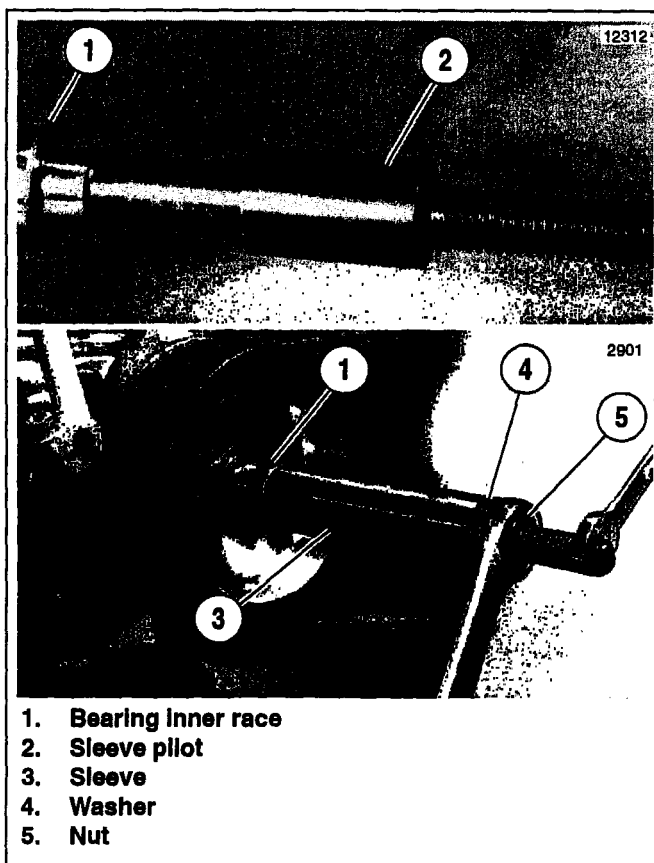

Figure 14. Installing Mainshaft Inner Bearing Race
*See Figure 14. The **new** mainshaft inner bearing race (Part No. 34091-06 from 94445 recall parts kit) must be positioned on the mainshaft a precise distance to properly align with bearing outer race in inner primary chaincase.*
17. See Figure 14. To install **new** mainshaft bearing inner race (1) (Part No. 34091-06 from 94445 recall parts kit), use those parts of the combination BEARING RACE PULLER AND INSTALLATION TOOL (Part No. HD-34902-B) that are shown in the figure.
- a. Slide bearing inner race (1) onto mainshaft with numbered end of race facing away from main drive gear.
- b. Thread sleeve pilot (2) onto end of mainshaft (left hand thread).
- c. Position sleeve (3) over sleeve pilot and against bearing inner race.
- d. Place washer (4) over threaded portion of sleeve pilot and install nut (5).